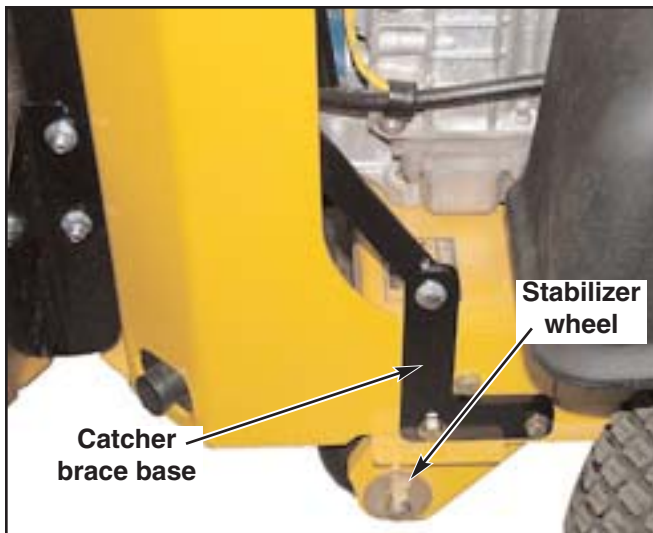

Figure 3-15
6. Attach the lower part of the two catcher braces (Ref. # 17 and Ref. # 18) to the two catcher brace bases. Fig. 3-15